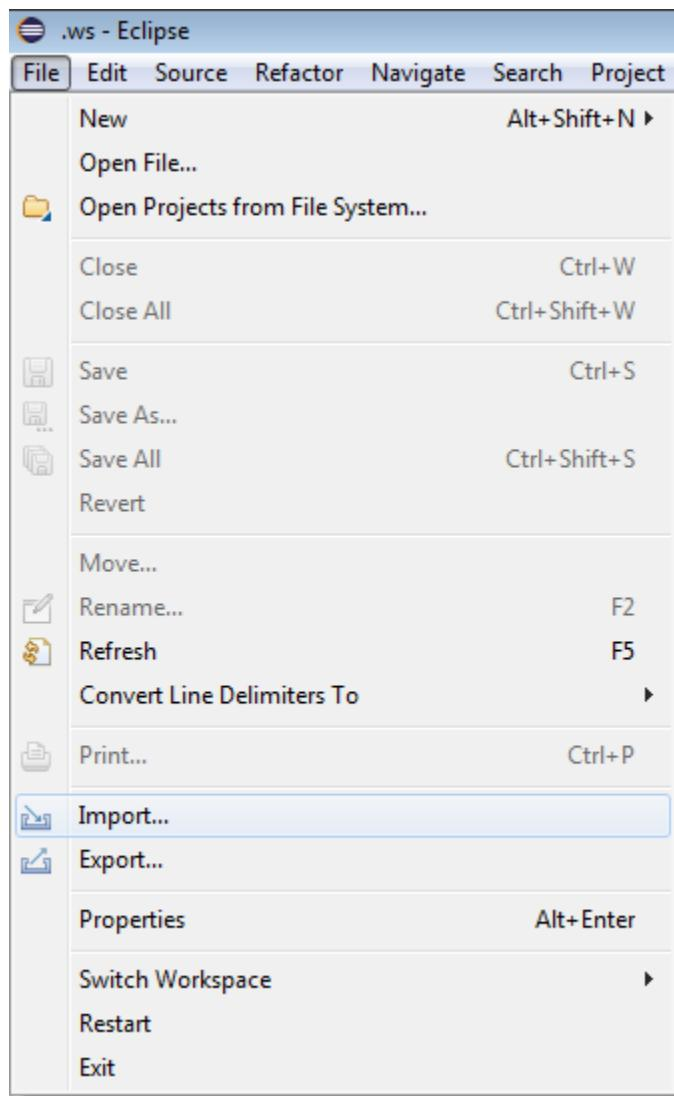

Fig. 11.10: Select Import
1. Import the project via File -> Import, as shown in Fig. 11.10.